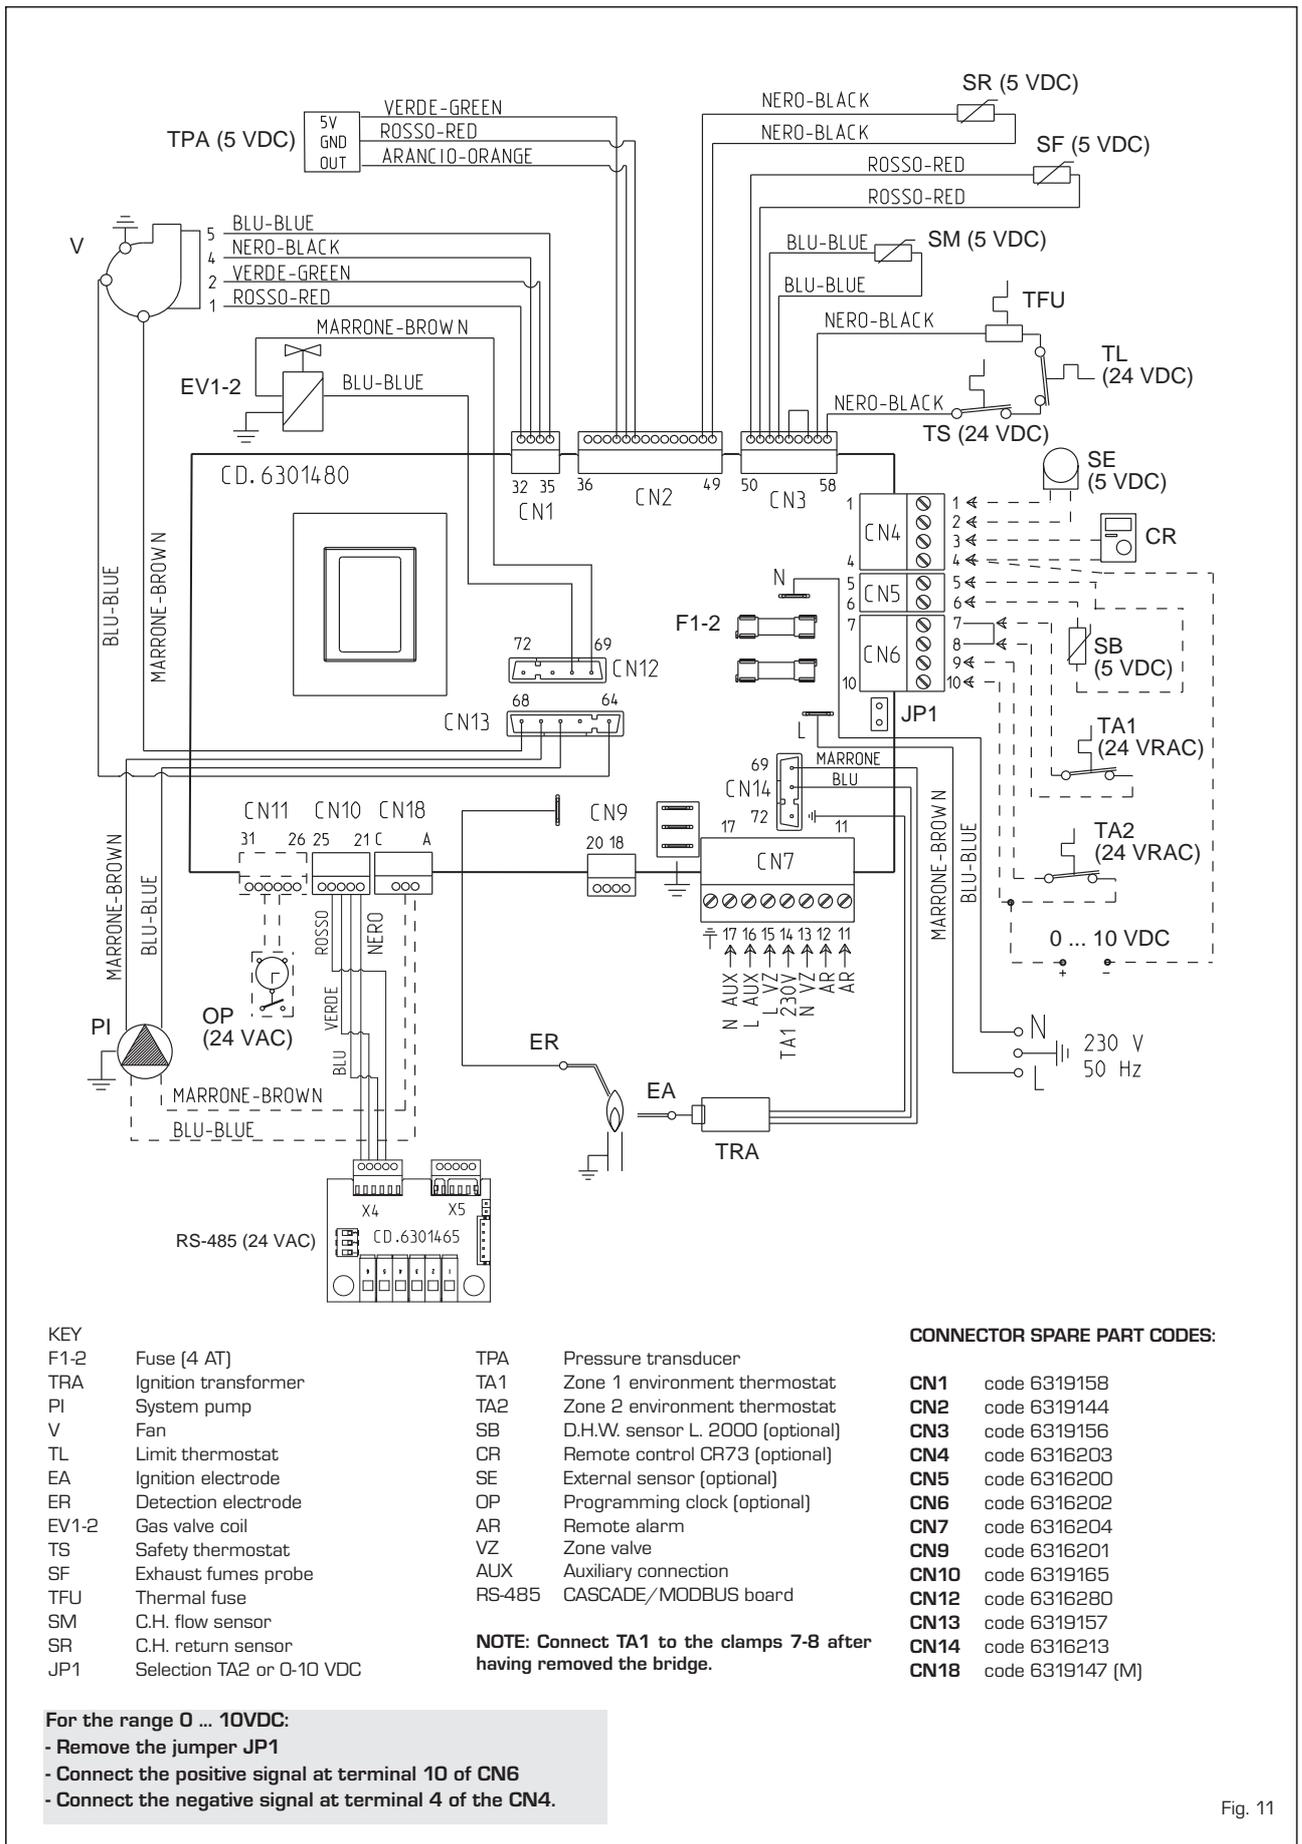

Fig. 11
ters to be set in the boiler are given. The electrical connections to the boiler refer to the wording on the diagrams (fig. 11). The zone valve control starts at every demand for heating of the zone 1 (it is from part of the TA1 or the CR).
2.8 BOILER ELECTRICAL (fig. 11)